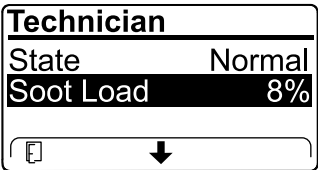

Figure 43
- View the soot load which is measured as the percentage of soot in the DPF(Figure 43); refer to the soot-load table.